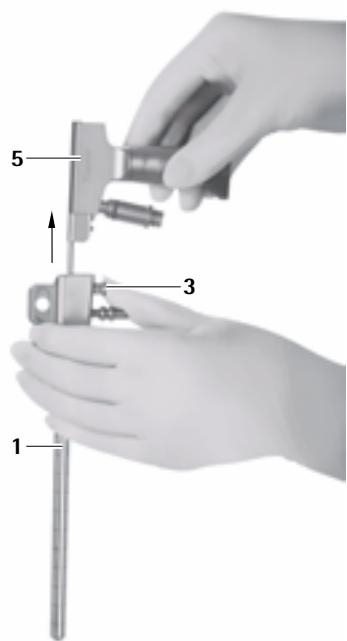

Fig. 8
► Press release button **3** and remove endoscope **5** from the MINOP inVent trocar **1**, see Fig. 8.